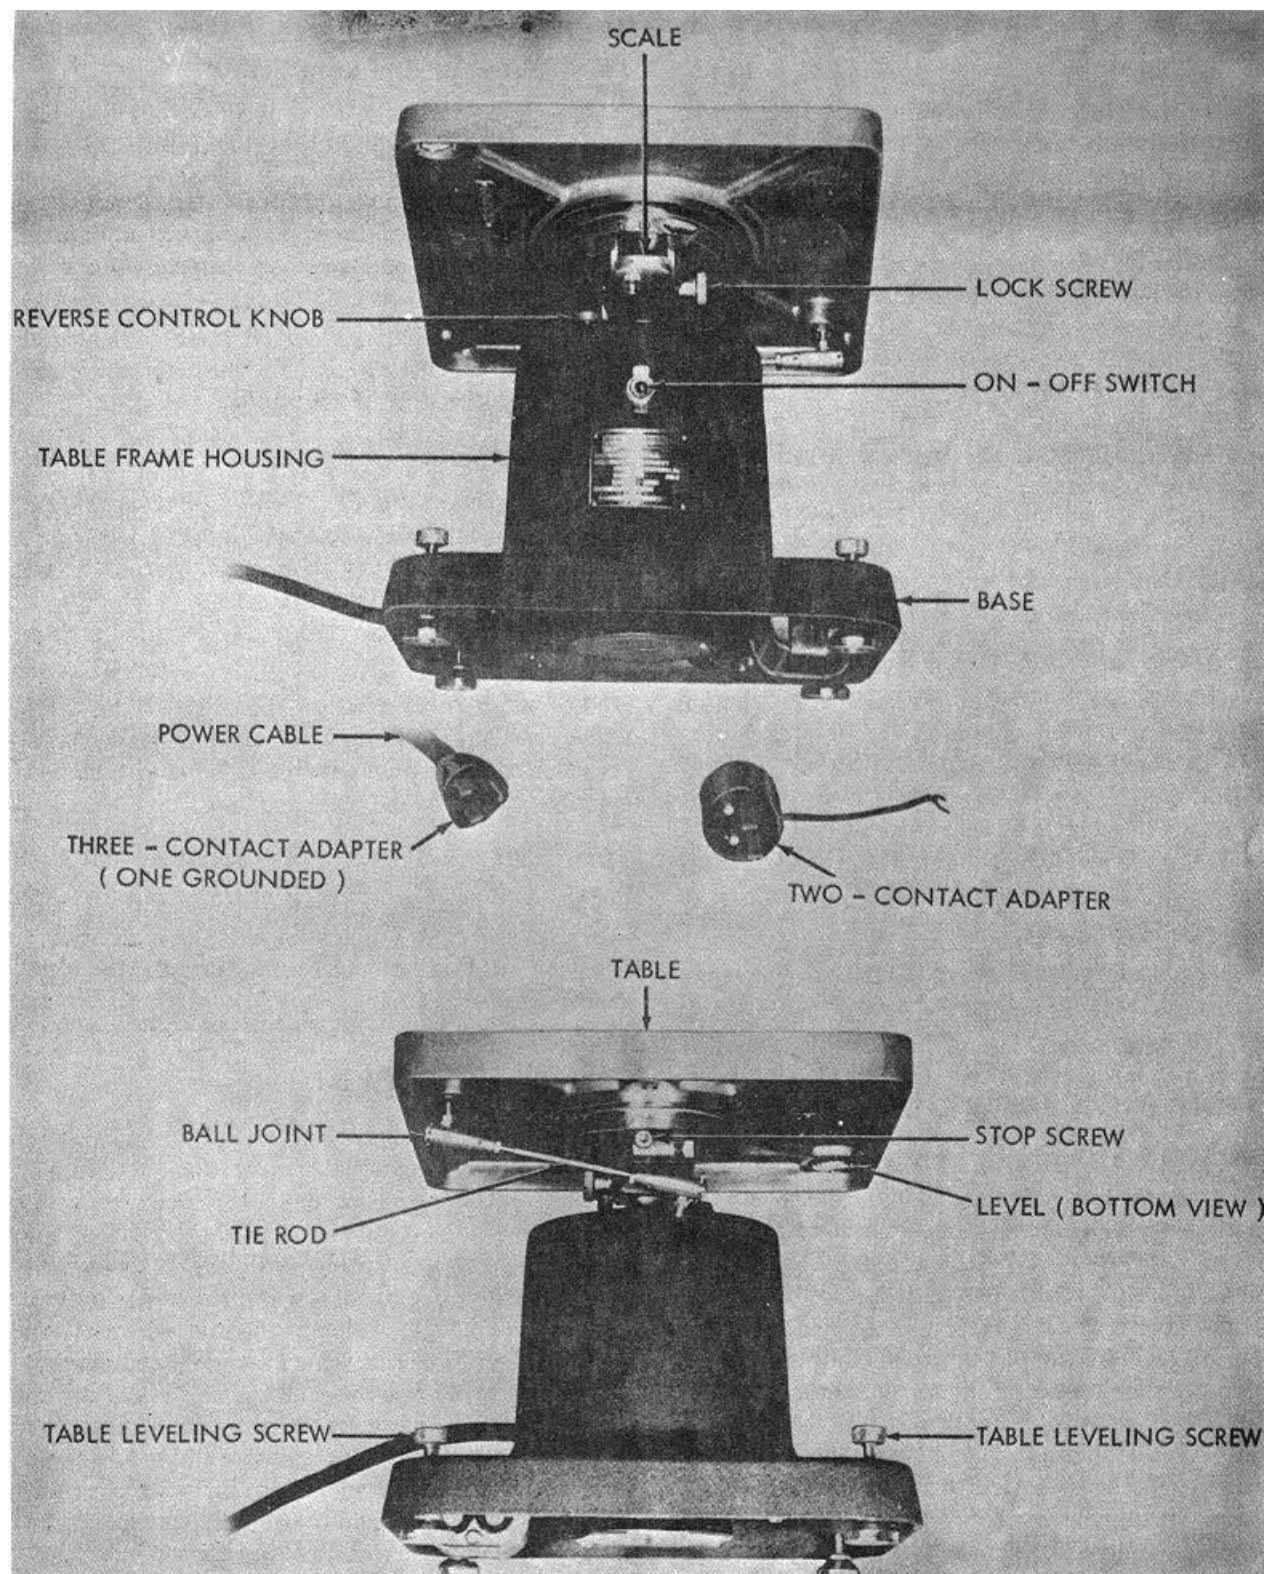
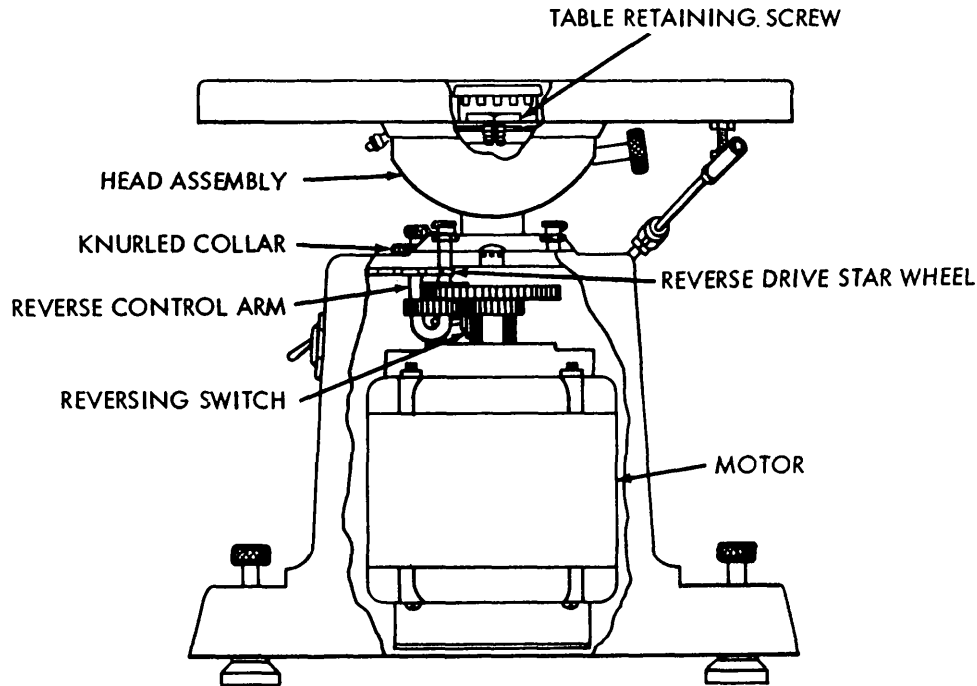

Figure 6. Controls.
Figure 7. Cross-sectional view of Scorsby table.
The tie rod (fig. 6) is located under the table at the right side and connects from the table to the table frame housing by means of ball joints. The tie rod prevents the table from rotating, when in the level (non-tilted) position, while the motor is running. If the table is tilted and the motor is running, Scorsby motion (oscillation) of the table will result. Disconnecting the tie rod from the table results in complete rotation of the table, along with the head, either with the table tilted or level, in its horizontal plane.
The four table leveling screws (fig. 6) are located in the base of the table assembly, one in each corner. The circular level is located on the front of the table in the left hand corner. By adjustment of the four table leveling screws and observation of the level, the table can be leveled in its horizontal plane.
The ON-OFF switch (fig. 6), located on the front of the table frame housing above the unit identification plate, controls application of electrical power to the motor for rotation of the head assembly of the Scorsby table.
The reverse control knob (fig. 6) is located on the top of the table frame housing on the left and to the front directly below the table. The reverse control knob is provided to allow use of either the automatic or manual reversing feature of the table assembly. The head of the table assembly can be set to reverse its direction of rotation automatically every six cycles (approximately once each minute) by lifting up on the reverse control knob. In addition, the direction of rotation of the head of the table may be reversed at any time by moving the knob to the lower position and turning it manually in the direction of desired rotation.
The stop screw (fig. 6) is located on the table assembly directly below the table and to the left of the scale. The stop screw is provided to set the angle of tilt of the table (up to 15°). By pushing on the edge of the table at the stop screw end, after the clamp screw is released, the table can be set to the desired angle and the stop screw turned inward. Thereafter, if the table is leveled it can be returned to the original setting held by the stop screw by pressing on the edge of the table.
The lock screw (fig. 6) is located on the table assembly directly below the table and to the right of the scale. It serves to hold the table in the position at which it is tilted.
The scale (fig. 6) is located directly below the table on the center block of the table assembly near the stop screw. The scale is calibrated with graduation marks at 0, 1 1/2 5, 7 1/2, 10, and 15° to indicate the angle at which the table is tilted.
The reversing switch (fig. 7) is located inside the table frame housing with its toggle lever positioned in between the curves of the reverse control arm. It functions to reverse rotation of the head of the table assembly alternately (once every six cycles) automatically. A finger on the reversing switch knob drive engages a slot in the star wheel of the switch drive. The star wheel is rigidly attached to the knurled collar just below the reversing switch knob. The automatic reversing mechanism can be disconnected by pressing down on the reversing switch knob so that it snaps into its lower position. The rotation of the head of the table assembly can then be reversed by controlling the switch manually as explained in paragraph 15.
- (1) Refer to paragraph 39 and perform the before operation services given in table I.
- (2) Make certain ON-OFF switch (fig. 6) is in OFF position, and connect power cable to a 110-volt ac 60-cycle electrical power source.
- (3) Proceed with tests as outlined in the applicable handbook for the gyroscopic instrument being tested. Place ON-OFF switch in ON (up) position to apply power to table assembly.
Make certain lock screw (fig. 6) is loose and set table in its horizontal position by bearing down on edge of table opposite stop screw side. Adjust the four table leveling screws in the base of the table assembly and level table by centering bubble in level (fig. 1) mounted in table.
a. *Scorsby Motion* (fig. 2). To obtain Scorsby motion, the table must be tilted and held in a stationary position. To accomplish this, tilt the table as described in paragraph 27. Also, table-to-table frame housing linkage (tie rod and ball joints fig. 6) must be connected to prevent table from rotating. If detached, secure at ball joints to table and table housing frame. Under these conditions, when power is applied to the motor, the head assembly (fig. 7) will rotate, but the table will remain stationary and Scorsby motion will be developed.
b. *Turntable Motion*. To obtain the turntable motion, the table may be tilted or set in the horizontal position; however, it must be free to rotate. To accomplish this, unscrew ball joint (fig. 6) from table to detach table-to-table frame housing linkage. With this arrangement, when power is applied to the motor, the head assembly will rotate carrying the table with it.
a. *Automatic Reversal*. Automatic reversal is set by placing the reverse control knob (fig. 6) in its upper position. The reverse control arm (fig. 7), which is attached to the shaft of the reverse control knob, thereby, meshes with the reverse drive star wheel. The star wheel which is rigidly attached to the knurled collar (fig. 7) at the base of the control knob is driven by a series of gears attached to the motor shaft. Since the reverse control arm operates the reverse switch, lifting the reverse control knob to its upper position allows the motor to actuate the reverse switch to automatically
b. *Manual Reversal*. Manual reversal is accomplished by placing the reverse control knob in its lower position and turning it in the direction of desired rotation. Since in this lower position, the reverse control arm (fig. 7) does not mesh with the star wheel, it is disconnected from the motor shaft and automatic reversing cannot occur. However, manually turning the reverse control knob, to which the control arm is attached, will activate the reversing switch to reverse the direction of head assembly rotation and, in turn, table rotation or Scorsby motion oscillation as the case may be.
The table (fig. 6) can be tilted to any preset angle, as determined by the setting of the stop screw, up to the 150 limit set by the design of the head assembly. Since the center block of the head assembly is provided with a slot rather than a hole for accommodation of the lock screw which holds the top plate and table in position, the table can be tilted by proceeding as follows:
- Loosen the lock screw and press down on the edge of the table at the stop screw end to position the table at the desired angle of tilt as indicated on the scale (fig. 6).
- (1) Apply the equivalent of approximately Y inch ball of high quality bearing grease, such as MIL-G-27343, at the grease fitting on the head assembly. Remove the access cap on the top right portion of the table frame housing (fig. 6) and apply the same amount of grease on the teeth of the gears which are accessible through the hole. Replace cap.
- (3) Lubricate the shaft of the compound gear assembly by applying two drops of oil to the oil cup nearest the reverse control knob (fig. 6).
- (4) Apply a drop of oil to shaft of the reverse control knob.
- (5) Apply a drop of oil on the grooves at each end of the trunnion block which slides when the table is tilted. Work block several times through full travel.
- (6) Apply a drop of oil on the ball of each ball joint of the table tie rod (fig. 6).
- (7) Apply a drop of oil to the shaft of each of the four leveling screws. Work screws in and out.